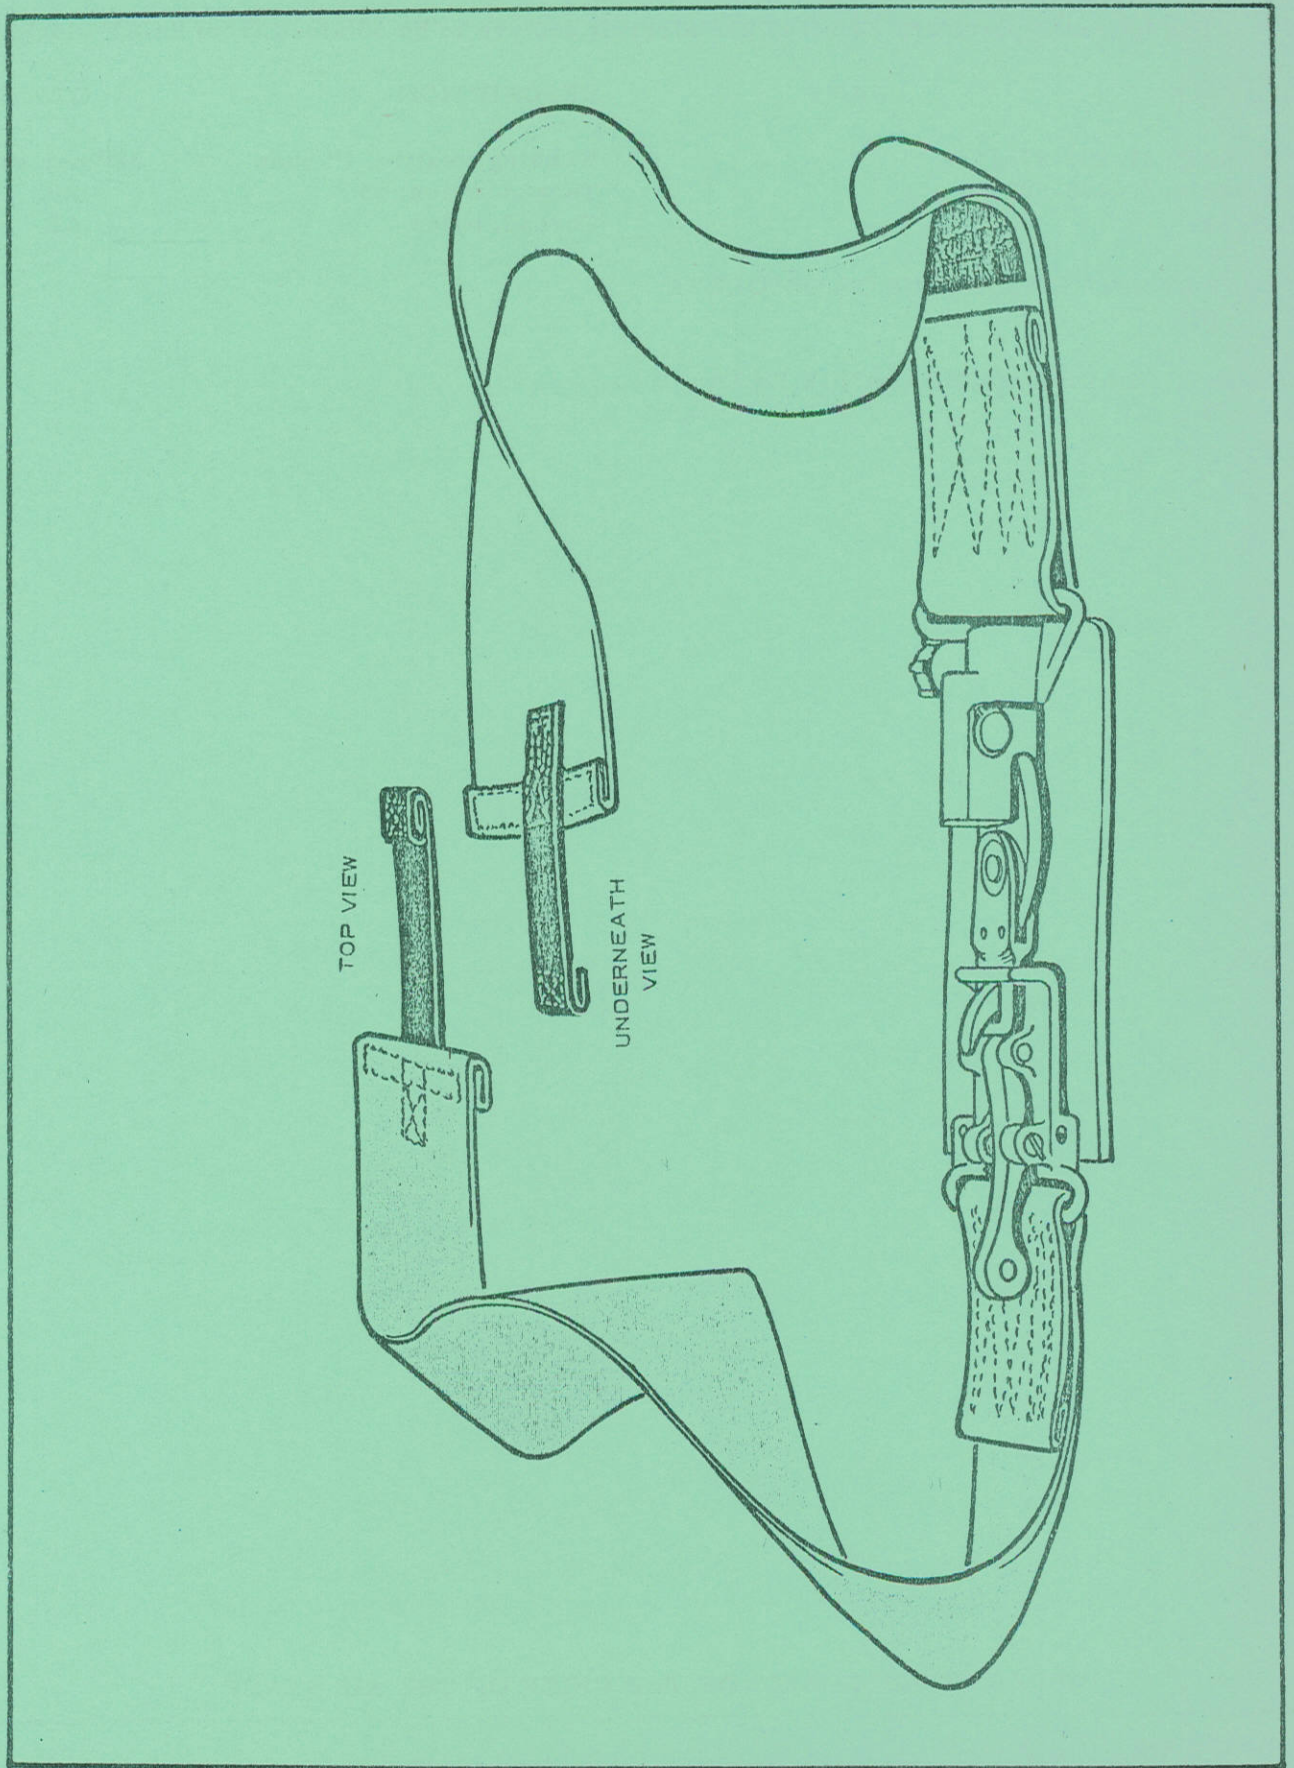

Figure 2 MA6 Lap-Belt Fitted with Extension Tabs
- (4) Sew tabs along both sides so that both parts of the tab webbing will be attached to each other, see Figure 2.